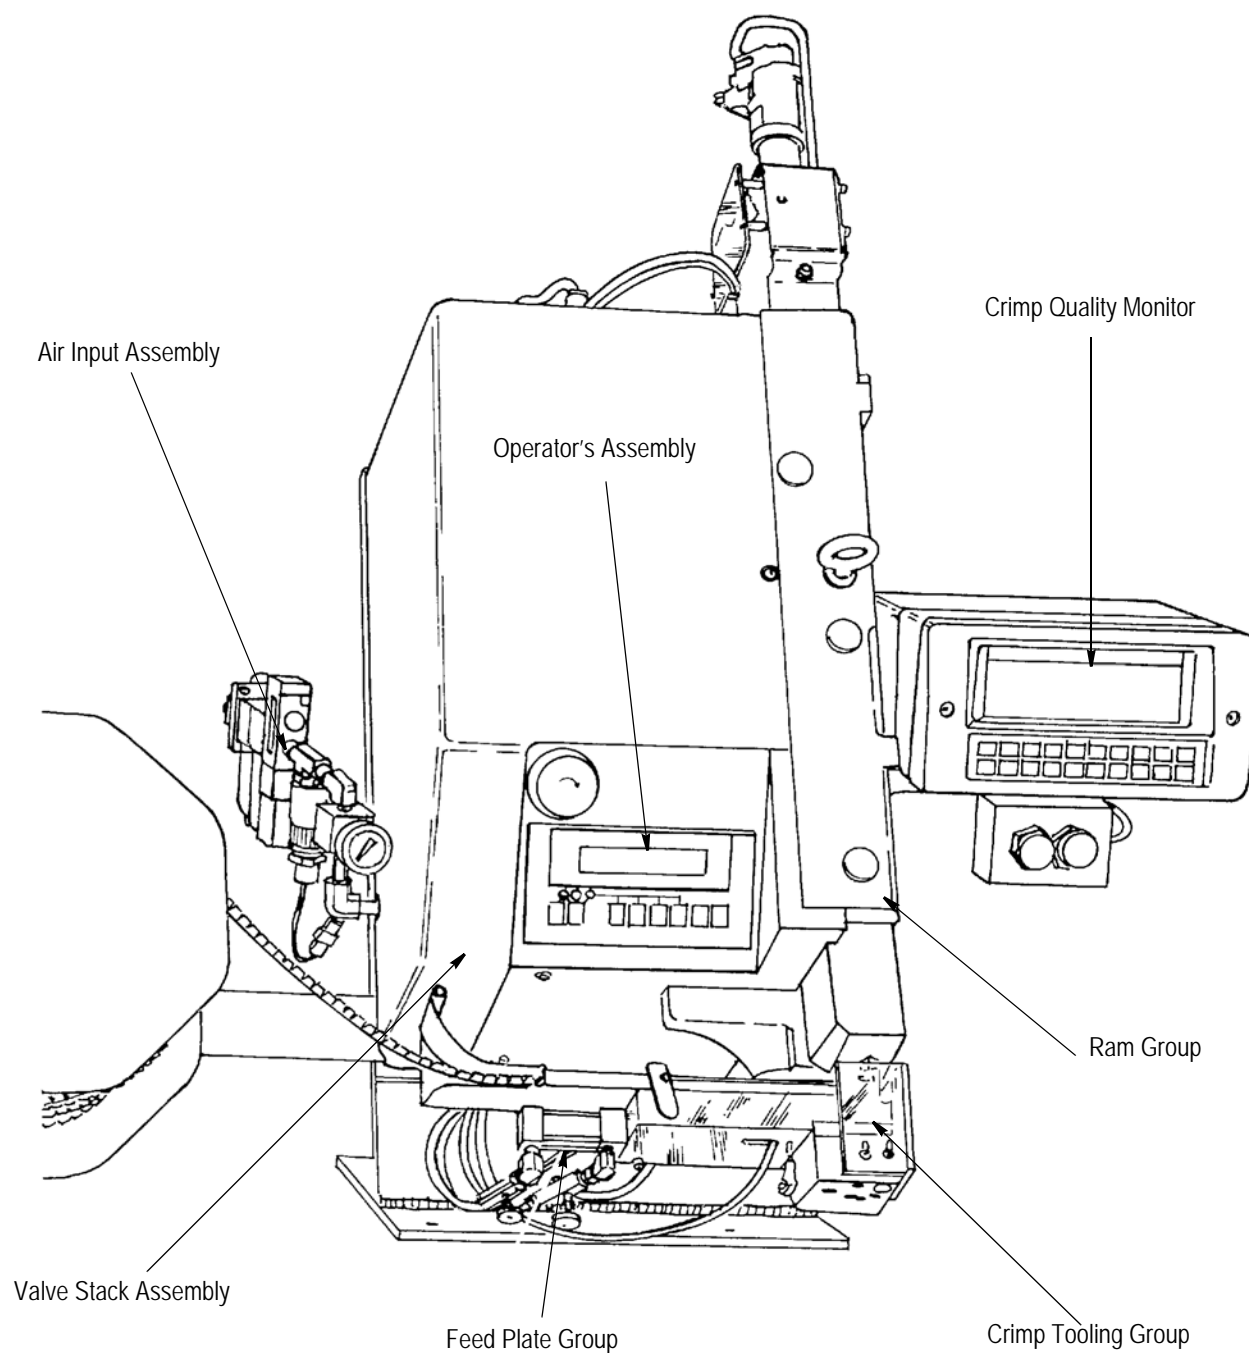

Figure 3
2.1. Major Groups and Subassemblies (See Figure 3)